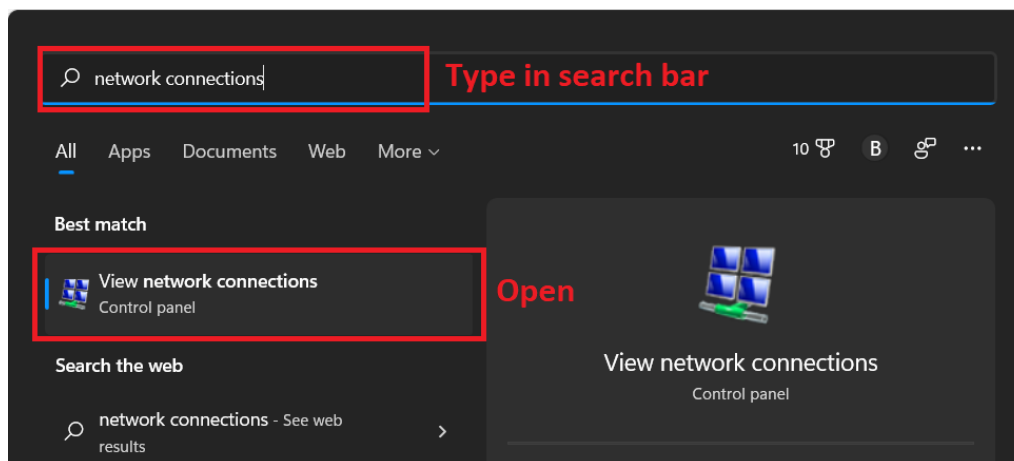

Figure 14: View Network Connections
- 2- Type in the search “network connections” and either select when it is displayed, or press enter. See Figure 14.